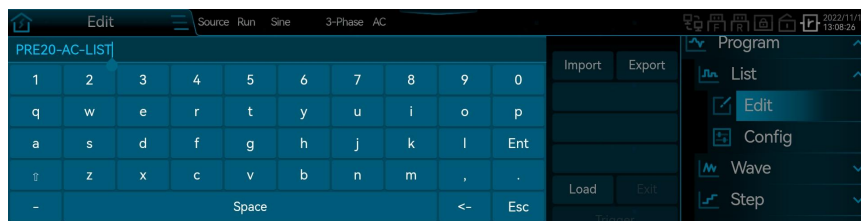

Figure 69 Waveform Export Interface Diagram
- 1) Click Figure 63 the 'Export' button at the upper right corner in Figure 69 to enter the interface.